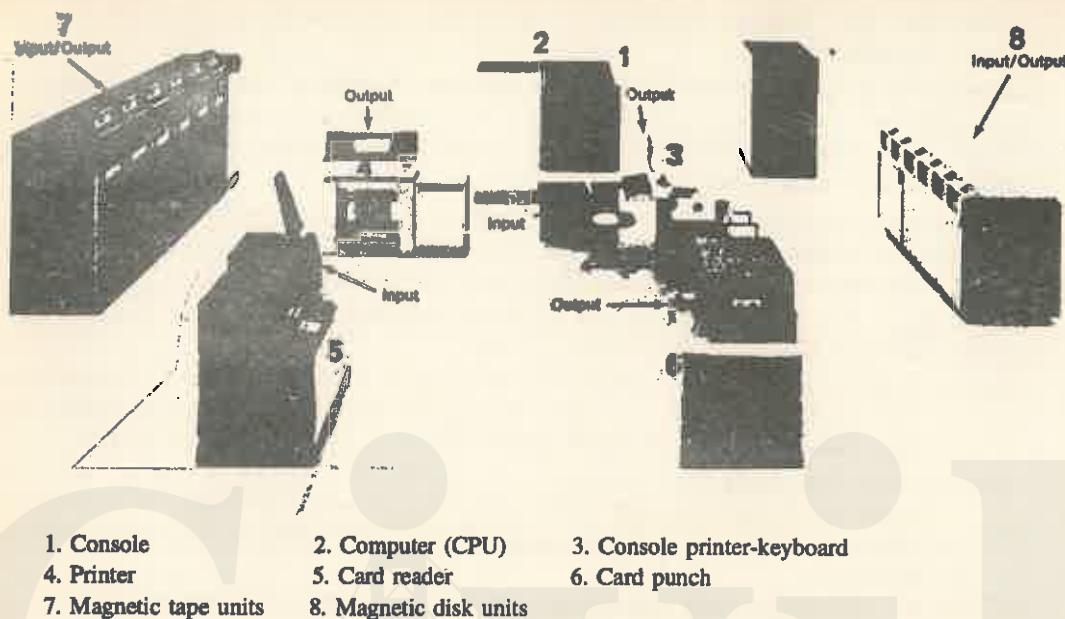

Fig. 39.4 Typical computer system
- A larger system may also include *magnetic tape units* and *magnetic disk units*, which are used to store data. (A computer system with all of these machines is shown in Fig. 39.4) In addition to these machines, a variety of other machines can be used. The basic factor determining which machines are appropriate is the data processing that is required.